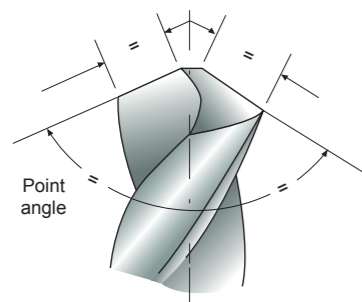

Figure 8
(1) Drills are worn off irregularly. It should be sharpened prior to developing into excessive wear.
(2) Resharpener
- ① Grind the correct point angle to suit your application. (figure 8)
- ② Check that both cutting lips have the same angle. On a 130° point, each lip should be 65° toward the axis. The point must be on center, i.e., the chisel edge must produce cutting lips of equal length. (figure 8)